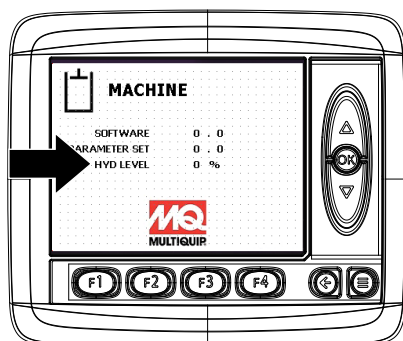

Figure 23. Hydraulic Oil Level Display
4. Press the **down arrow button** to scroll downward until **HYD LEVEL** (Figure 23) is displayed on the screen. The hydraulic oil level should be 20–75% when the oil is cold.